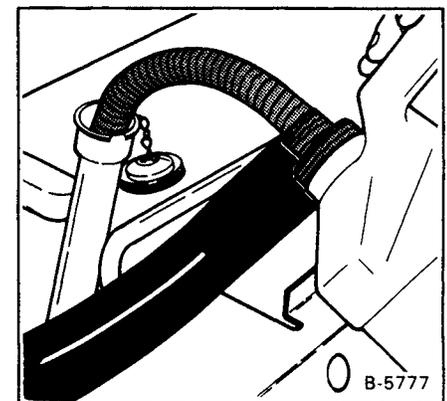

Fig. 1-19 Engine Oil Fill
- (6) Install the oil fill (Fig. 1-19) and fill to capacity (See the Specifications Section).